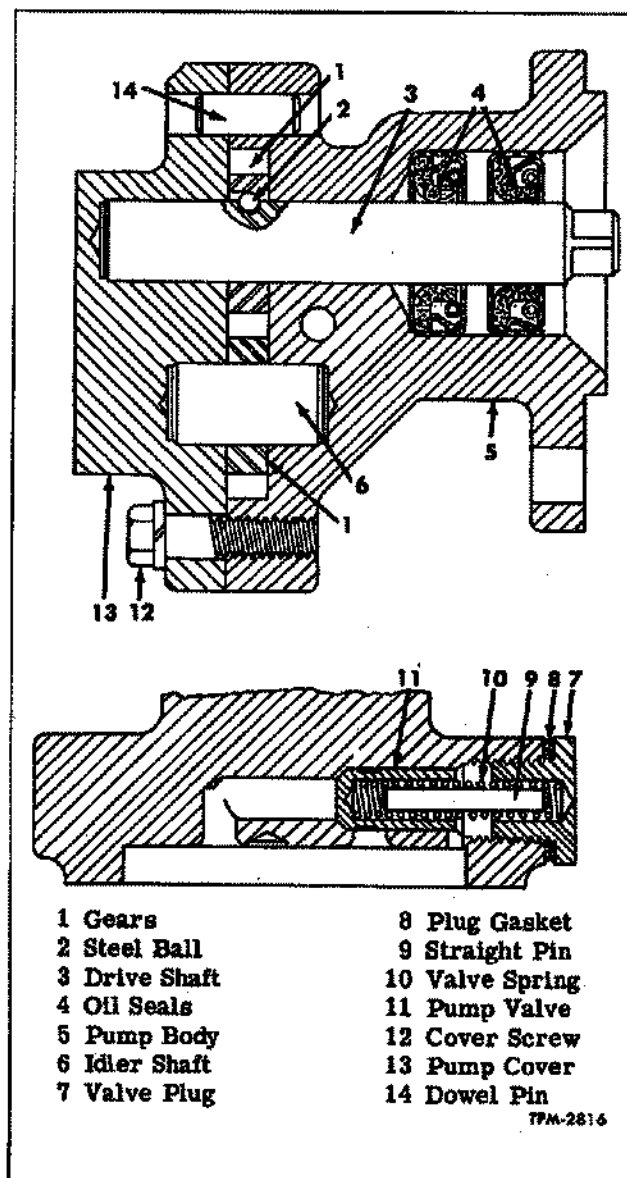

Figure 24—Fuel oil Pump Assembly
The fuel pump shown in figure 24 is positive displacement gear type.
Refer to figures 24 and 28, then proceed as follows:
4. Position drive gear over drive shaft with open end of ball slot toward cover. (Fig. 24).
8. Install valve, spring and straight pin into pump body then install gasket and retaining plug (Fig. 24). Tighten plug.